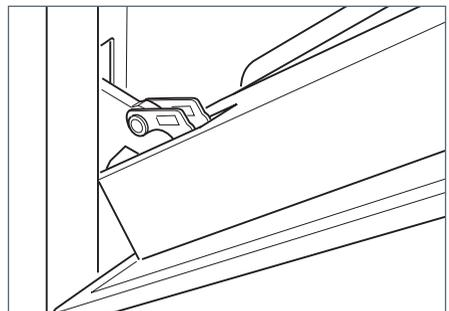

Fig.63d
- 4 Gently close the door until left and right hinge levers "A" are hooked to part "B" of the door (Fig. 63d).